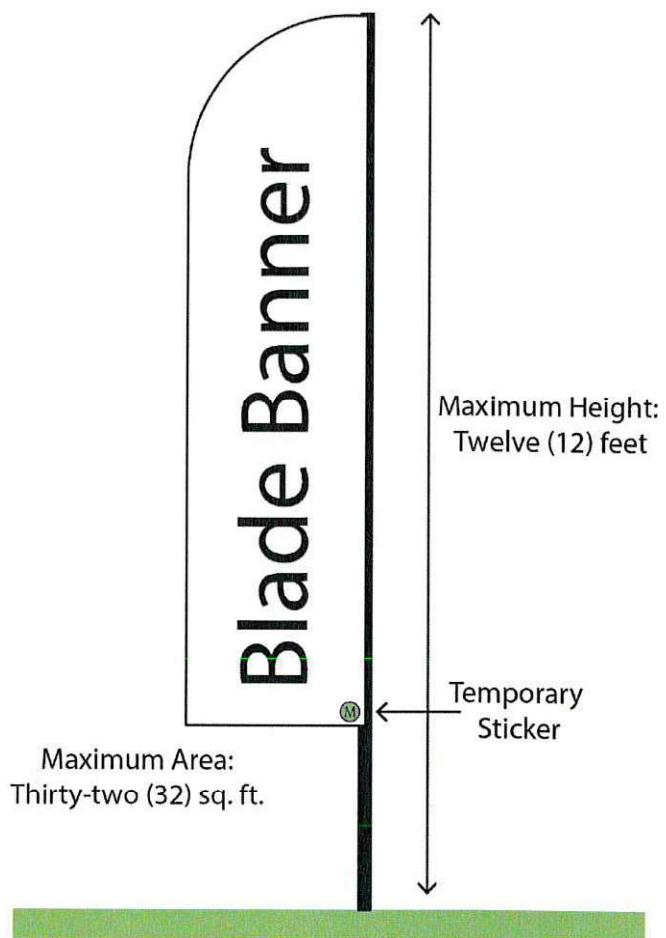

Figure 25
3. Blade banner signs shall not exceed an overall height of 12 feet. The blade banners must be ground mounted using a post or supported in a stand (*See Figure 25*).